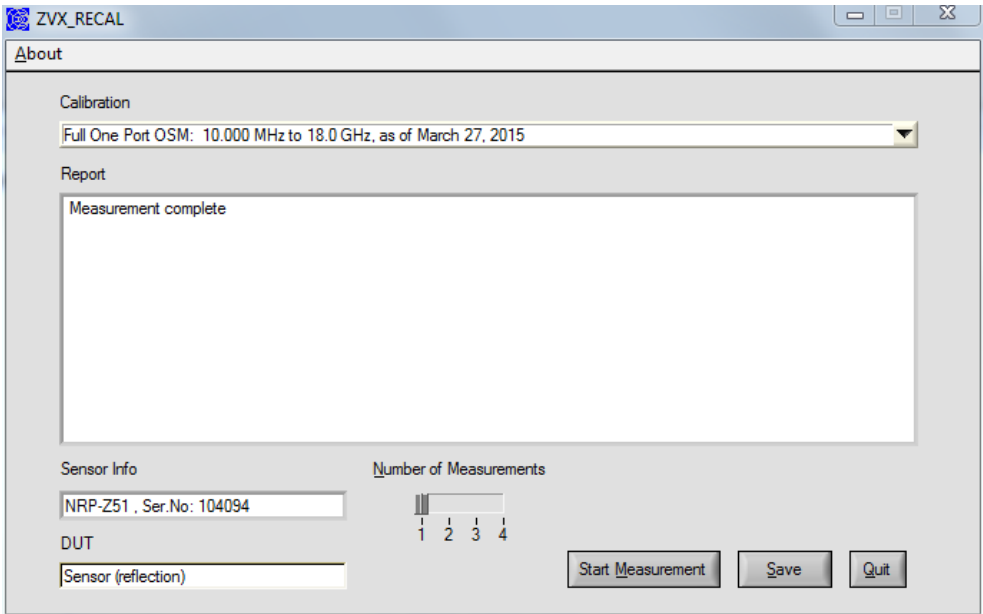

Fig. 6-9 User interface after completed reflection measurement
- Press the **Continue** button. Depending on the number of set measurements, there is either another prompt to connect the DUT (in another angular position) or the **R&S® ZVX_RECAL** user interface will appear with the **Measurement complete!** message (Fig. 6-9)